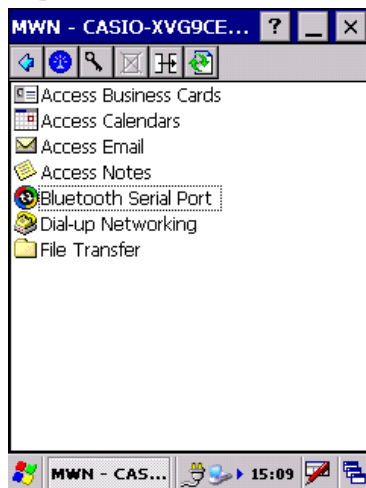

Figure 5.34
4. Tap and hold **Bluetooth Serial Port** icon (see Figure 5.34) and a pop-up menu should appear with an icon **Use to connect for ActiveSync**.
8. Tap the blue icon in the Taskbar (see Figure 5.34) and choose **Shortcut**.